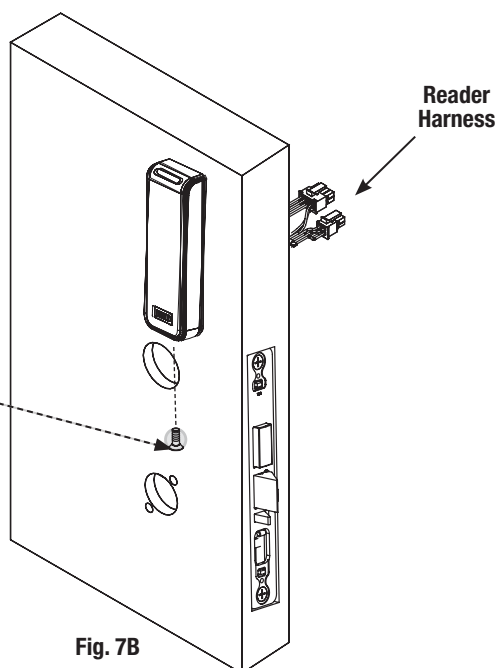

Fig. 7B
- C. Secure the reader to the mounting plate using the supplied 0.138-32 x 0.375" screw (Fig. 7B).